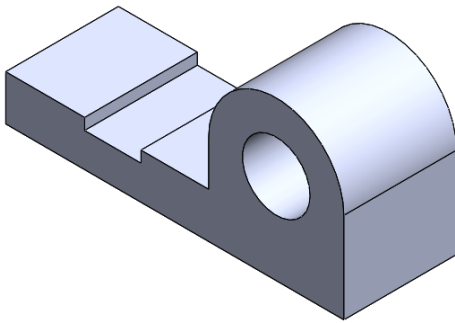
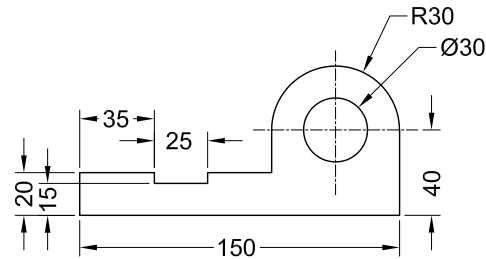

Figure 2-64 Solid model for Tutorial 3
Figure 2-65 Sketch for Tutorial 3
In this tutorial, you will draw the basic sketch of the model shown in Figure 2-64. The sketch to be drawn is shown in Figure 2-65. Do not dimension the sketch; the solid model and its dimensions are given for your reference only. **(Expected time: 30 min)**
- Draw the inner circle using the **Circle** tool, refer to Figure 2-65.
It is evident from Figure 2-65 that the sketch consists of an outer loop and an inner circle. Therefore, this sketch will be drawn using the **Line** and **Circle** tools. You will start drawing from the lower left corner of the sketch. As the length of the lower horizontal line is 150 mm, you need to modify the drawing display area such that the drawing area in the first quadrant is increased. This can be done by using the **Pan** tool.